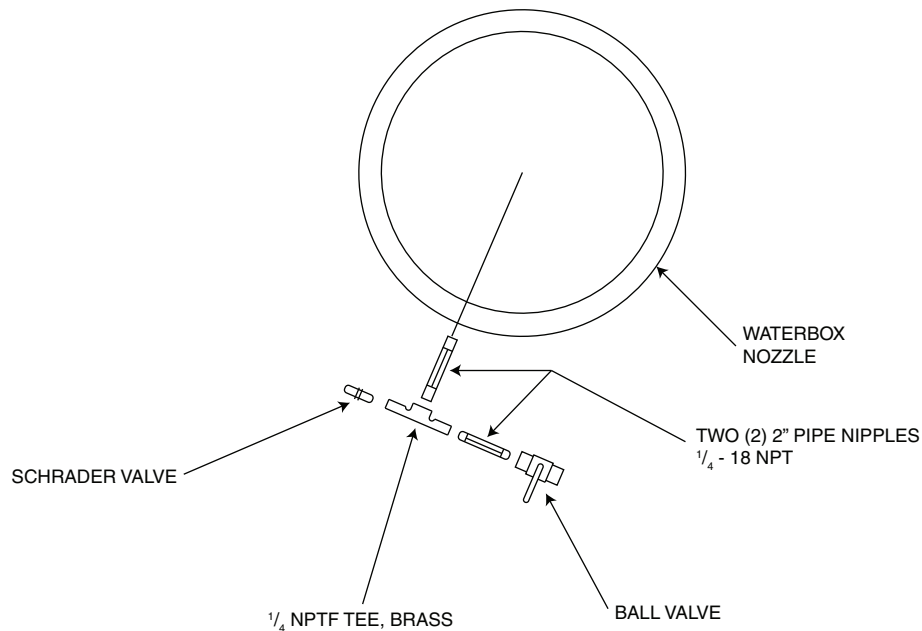

Fig. 45 — Suggested Installation of Pressure Transducers into Water Nozzles Using Flushable Dirt Leg Trap
- Installation of pressure transducers into water nozzles using flushable dirt leg trap is suggested; see Fig. 45. Pressures can be calibrated between 100 and 250 psig (689.5 and 1723.7 kPa) by attaching a regulated 250 psig (1724 kPa) pressure (usually from a nitrogen cylinder). For calibration, access the Pressure Sensor Calibration Menu from the Maintenance Menu and calibrate the appropriate sensor.